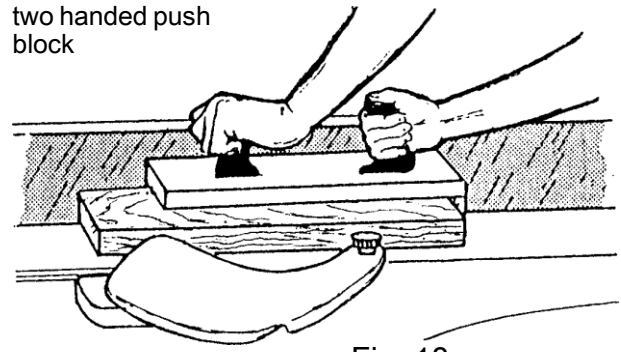
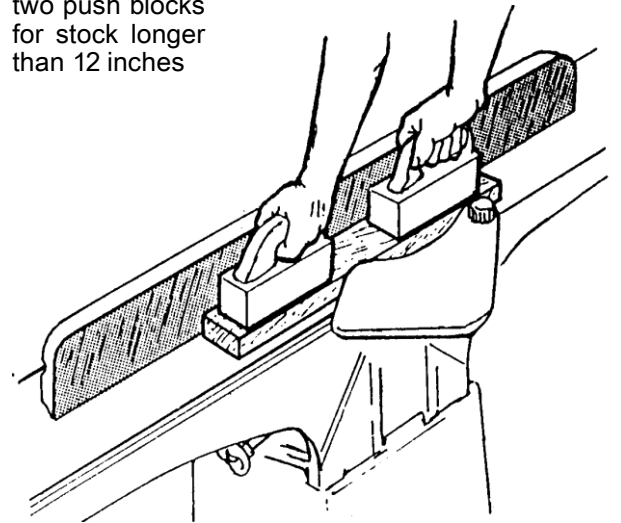
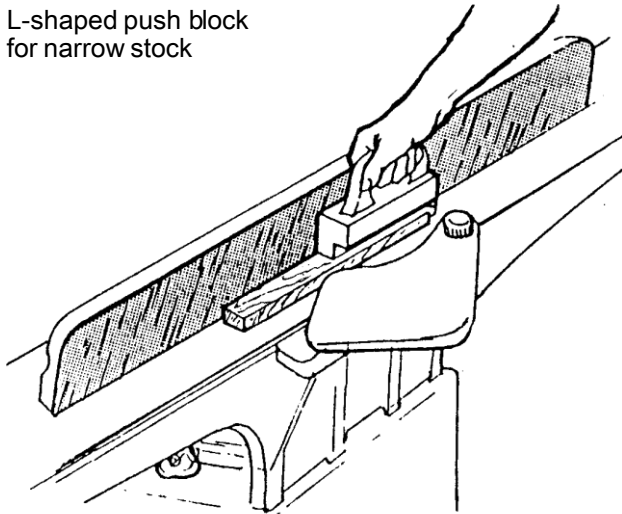

Fig. 18
Fig. 19
Fig. 20
Never surface pieces shorter than 12 inches or thinner than 3/8 inch without the use of a special work holding fixture. Never surface pieces thinner than 3 inches without the use of a push block. On stock 8" to 12" long use a single two-handed push block (Fig. 18). On stock longer than 12 inches use two push blocks (Fig. 19). With narrow stock use the type push block shown in Fig. 20. When surfacing short stock over 4 inches wide, use two (2) push blocks to guide material over cutterhead (Fig. 21).